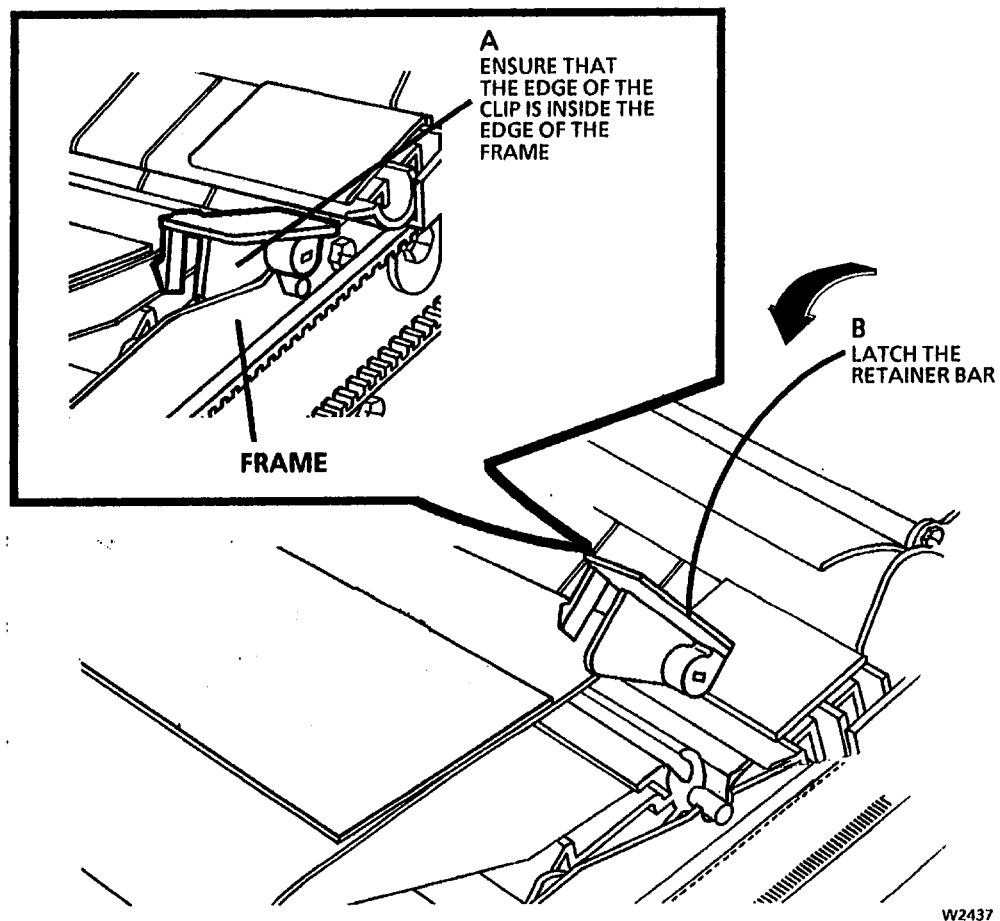

Figure 6. Reinstalling the Fabric Guide
4. (Figure 6): Reinstall the Fabric Guide.